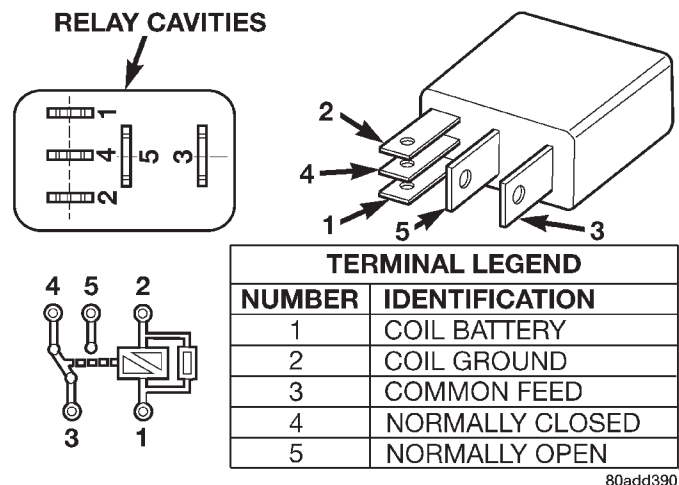

Fig. 13 Type-3 Relay
(15) If equipped with **type-3 relay** (Fig. 13), attach test leads from LCS adapter into PDC relay cavities number 3 and 5. For location of these cavities, refer to numbers stamped to bottom of relay (Fig. 13).
(16) When LCS adapter test leads are attached into relay cavities, fuel pump **will be activated**. Determine fuel pump amperage on DRB screen. Amperage should be below 10.0 amps. If amperage is below 10.0 amps, and specifications for the Fuel Pump Pressure, Fuel Pump Capacity and Fuel Pressure Leak Down tests were met, the fuel pump module is OK.